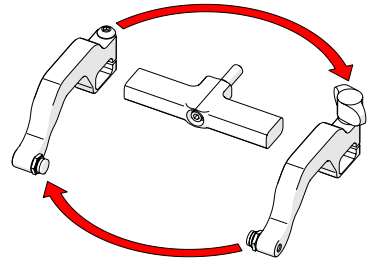

Fig. 137 - Reverse position around yoke
4. Position removed arms to opposite sides of the yoke (Fig. 137).